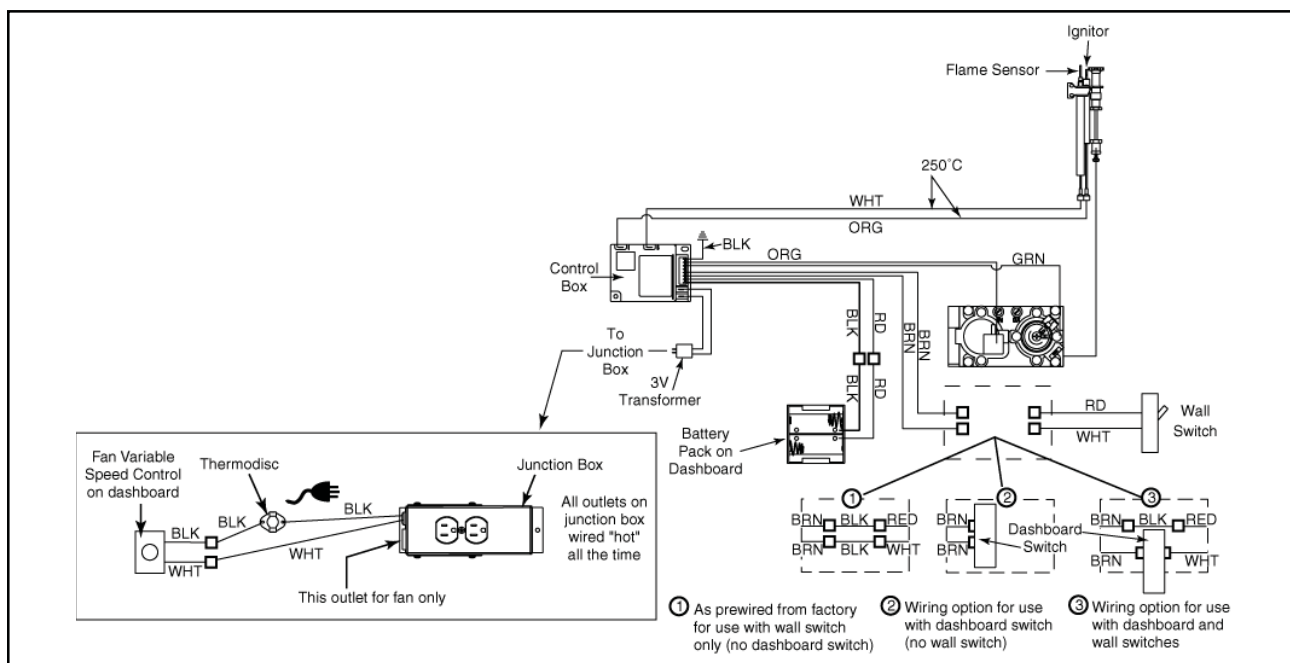

Figure 51 - Intermittent Pilot Ignition Wiring Diagram
This appliance is equipped with an intermittent pilot control valve which operates on a 3 volt system. See ignition wiring diagram, Figure 51.
See Figure 51, #2 detail.
See Figure 51, #3 detail.
- Hold the dashboard in front of the lower part of the appliance and plug in the wire as shown in Figure 51, page 21.